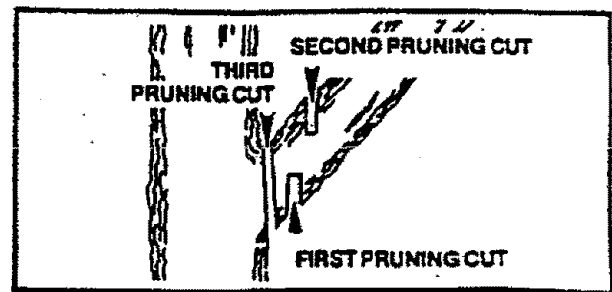

Figure 27
- Refer to Figure 27 for the pruning technique.